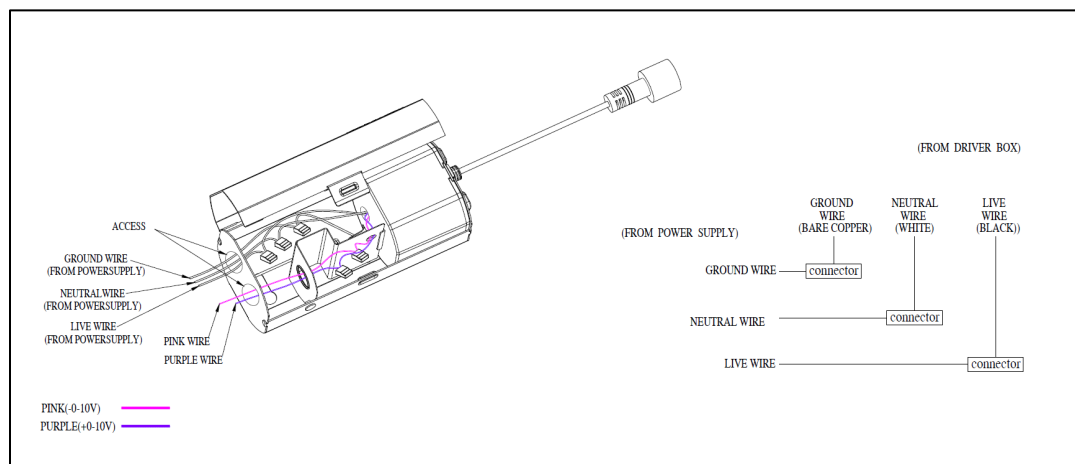

Figure 2
3. Open the cover of the remote driver box. Push and remove the appropriate knockout(s) on the side plate to accommodate the type of electrical supply being used. Locate power supply leads from remote driver box and connect to power source using poke-in connectors (provided). Connect black wire to live wire, white wire to neutral wire, and copper ground wire with ground (as shown Figure 2) and secure using poke-in connector; Pink and Purple Wire only applies to MVOLT fixture 0-10V dimming. Close the cover of the box.